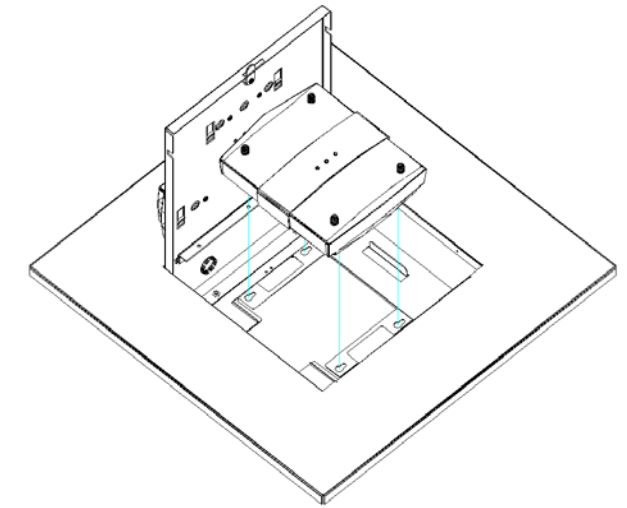

Figure 3 - AP Installation
Step 3 – Feed the Ethernet cable through the cable clamp and attach to the AP. Next, verify that the enclosure's locking plate is slid so that it is toward the outer wall of the enclosure. The AP should be aligned so that the three LEDs on the center panel are closest to the lock and the "Cisco Logo" is closest to the door hinge. Install the Cisco 1250 AP in the enclosure by aligning the feet of the access point with the key slots on the enclosure's mounting plate. Lower the AP onto the enclosure's mounting plate until you feel the AP's feet fall into the key slots (reference *Figure 3*).